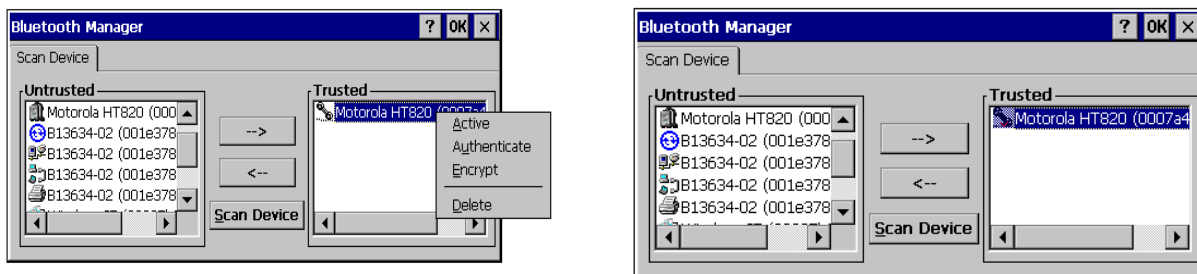

Figure 4-3. Bluetooth A2DP Test
5. After the Bluetooth headset is selected (click A2DP icon), click → to move the Bluetooth headset icon into right block. Click **No** in the dialog box. Double-click the icon in the right block and select **Active** (as in Figure 4-3). A red check mark should be marked on your Bluetooth headset icon. You may close the Bluetooth Manager window.